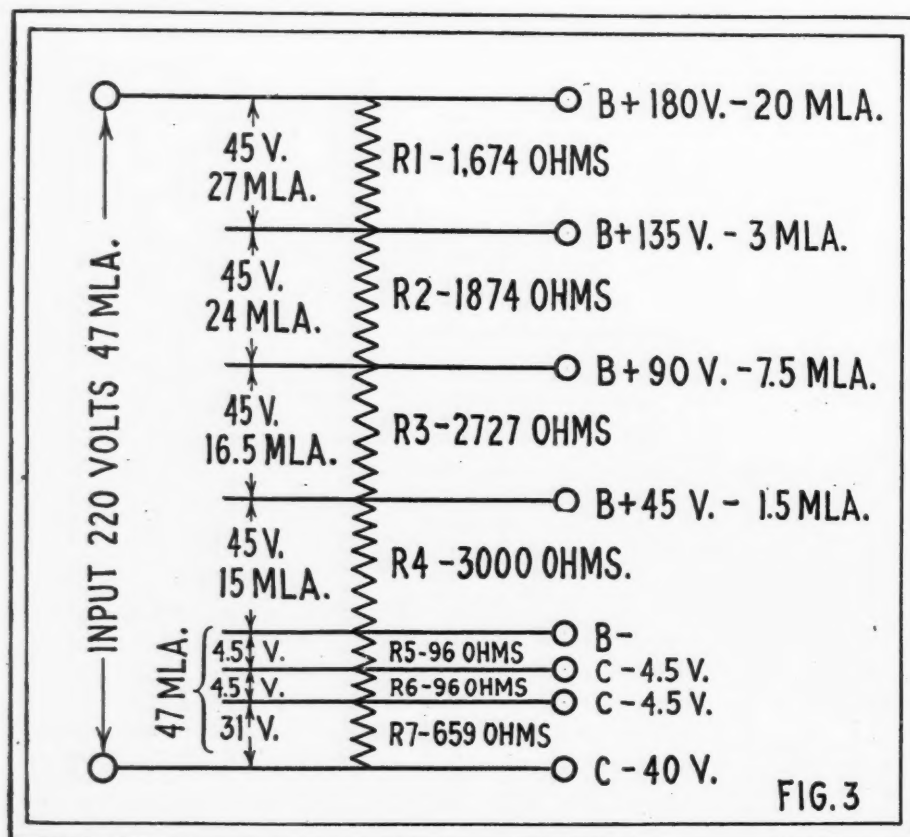

FIG. 3
In this illustration, the choke coil and condenser are used to prevent coupling. However, there are other circuits which require choke coils to create coupling. An excellent example of this is in the Reinartz circuit, shown in Fig. 3. In this circuit, in order to obtain regeneration, it is necessary that the R.F. energy in the plate circuit of the detector should be fed back to the grid circuit through the plate coil P of the coupler and the regeneration condenser C; therefore, the purpose of the choke coil RFC is to prevent the energy from going through the headphones and "B" battery. In this case the by-pass condenser (C) is variable, as it is used to control the amount of feed-back.